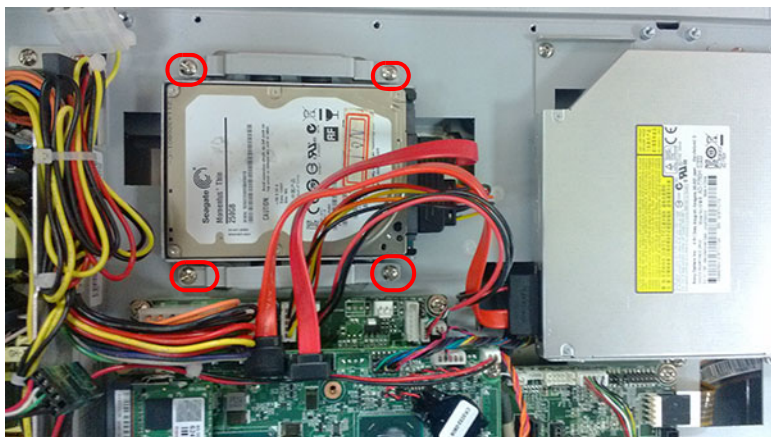

Figure 2.17
5. Return to the original position. (See Fig 2.17)
1. Insert MiNi SATA card into PCIE slot, and fix it with two M2x 6. (See Fig 2.17)